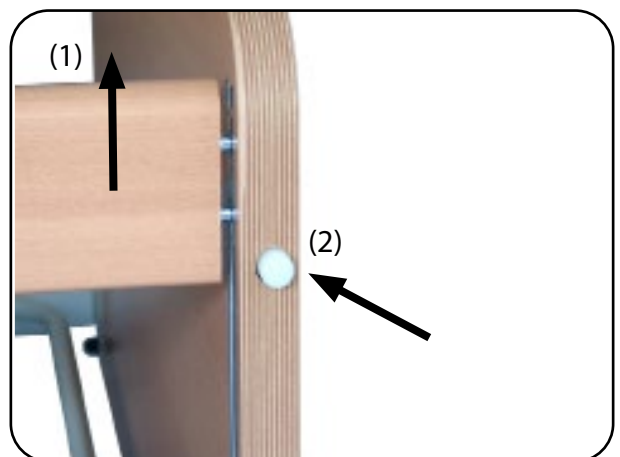

Fig. 8.2.01 – Lowering the side bars
1. To lower the side bars, first raise the top side bar slat (1) to unlock the release button (Fig. 8.2.01).
2. Keep the release button (2) pressed while the top slat is still raised and, still keeping the button pressed, lower the side bar slat down past the locking mechanism. When doing so, always lower the side bars slowly and carefully (Fig. 8.2.01).